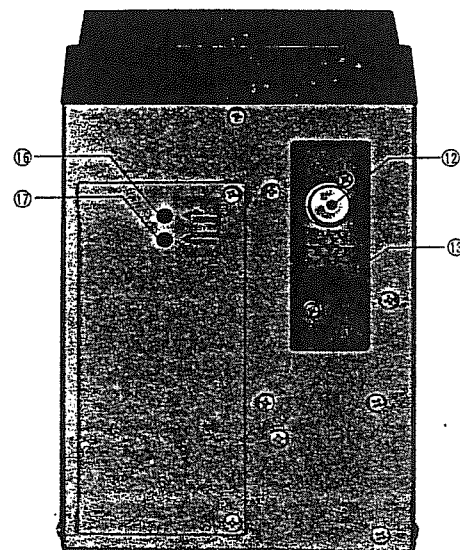
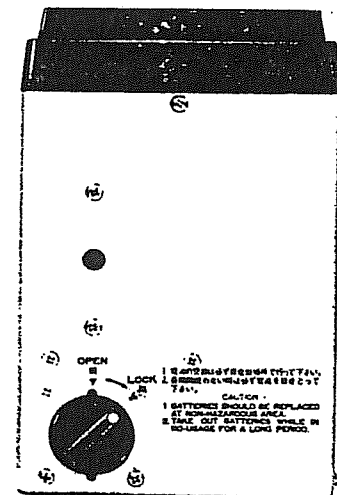

Fig. 2
Fig. 4
2) Replacement of dust filter (See Fig. 2)
- ① Take off the filter cap from the instrument.
- ② Remove old filter from filter cap and build new filter to the filter cap.
- ③ Insert the filter cap into the instrument.
3) Replacement of dust filter(See Fig. 4)
- ① Whenever meter cannot be reached BATT zone or low battery alarm would actuate during operation, replacements with new dry batteries are required.
- ② To replace ; rotate the cock counter-clockwise until the dotted mark (●) on the cock comes to OPEN position.
- ③ Take off the cock and replace batteries with new ones.